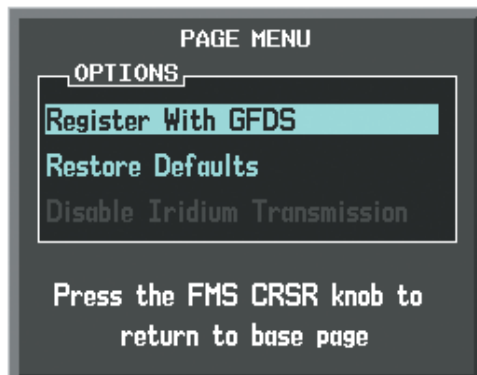

Figure 8-74 Select Register With GFDS
- 5) Press the **MENU** Key. The Page Menu window is now displayed as seen in Figure 8-74.